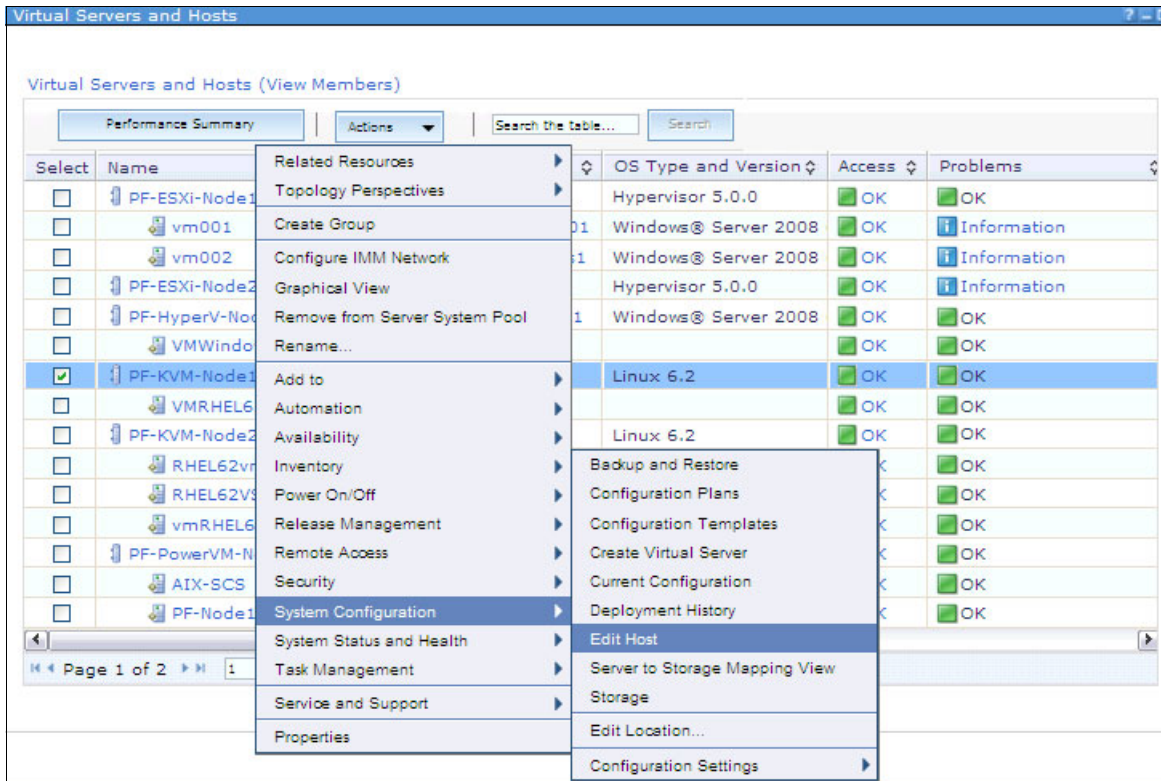

Figure 5-9 Edit KVM host
- Set up storage by right-clicking a KVM host, selecting **System Configuration**, and selecting **Edit Host**, as shown in Figure 5-9.